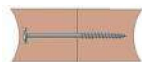

Fig.2
* The top stave has 2 concaved edges as in Fig.2